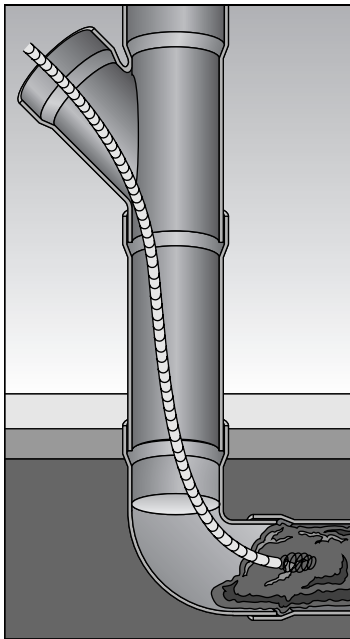

Figure 9-3:
2. **Use a plumber's auger, or "snake," to clear a clog at the first sign of a drainage problem (see Figure 9-3).**